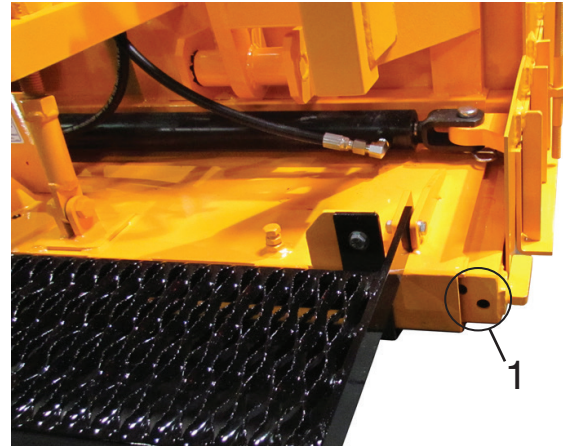

Figure 4-1. Screed Exhaust
4. See **Figure 4-1** and clear fire port and exhaust.